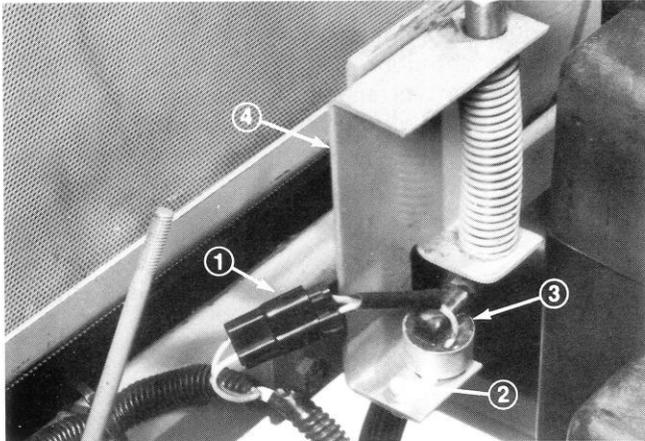

Figure 34
2. Remove instrument cover, disconnect negative battery cable from battery and separate wire harness connectors (Fig. 34). Remove capscrew and locknut (Fig. 34) and left switch up to disengage locating pin on bottom of switch from hole in mounting bracket.
3. To install new switch, set it on mounting bracket (Fig. 34) and insure locating pin on bottom of switch fits into hole in bracket. Secure switch in place with capscrew and locknut.